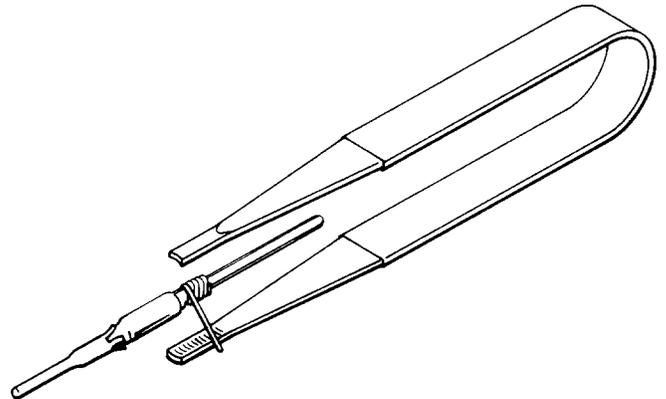

Fig. 5—Terminal Pin and Wire With Insertion Tool
(Fig. 10) accessible. With the insertion tool, grasp the socket at the crimp (so that the wire and crimp rest in the groove in the tool and are aligned with it; similar to Fig. 5 with socket replacing pin). Insert the socket into the proper hole and push it into that hole from the wire face end until it is locked into position.
| 5 | Replace each socket in its proper position in the quad plug (Step 3 or Fig. 13) by selecting the correct hole for a specific socket. Grasp the quad plug with the wire face (Fig. 10) accessible. With the insertion tool, grasp the socket at the crimp (so that the wire and crimp rest in the groove in the tool and are aligned with it; similar to Fig. 5 with socket replacing pin). Insert the socket into the proper hole and push it into that hole from the wire face side until it locks into position. |
7	Place each socket in its proper position in the quad plug (Fig. 13) by selecting the correct hole for a specific socket. Grasp the quad plug with the wire face (Fig. 10) accessible. With the insertion tool, grasp the socket at the crimp (so that the wire and crimp rest in the groove in the tool and are aligned with it; similar to Fig. 5 with socket replacing pin). Insert the socket into the proper hole and push it into that hole at the wire face until it locks into position.
- 6 Place each socket in its proper position in the quad plug (Fig. 13) by selecting the correct hole for a specific socket. Grasp the quad plug with the wire face (Fig. 10) accessible. With the insertion tool, grasp the socket at the crimp (so that the wire and crimp rest in the groove in the tool and are aligned with it; similar to Fig. 5 with socket replacing pin). Insert the socket into the proper hole and push it into that hole at the wire face until it locks into position.